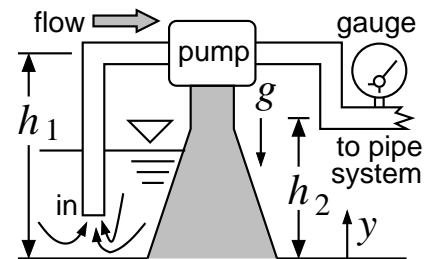

Figure 4: Reservoir pumping.
4. (10 pts) A pump at an elevation of $h_1 = 5\text{ m}$ above the bottom of a very large reservoir of depth $d = 2\text{ m}$ lifts water of density $\rho = 1000\text{ kg/m}^3$ over a dam, pumping it into a piping system at an elevation of $h_2 = 3\text{ m}$ (Fig. 4). The pipe diameter is $D = 0.1\text{ m}$ and the pipe flow velocity is $V = 1\text{ m/s}$. A pressure gauge in the pipe reads $P = 15,000\text{ Pa}$ above atmospheric. Calculate the amount of work added to the water in units of J/kg that produces a useful mechanical effect, i.e. the difference between the “shaft work” input by the pump and the overall losses associated with this flow.